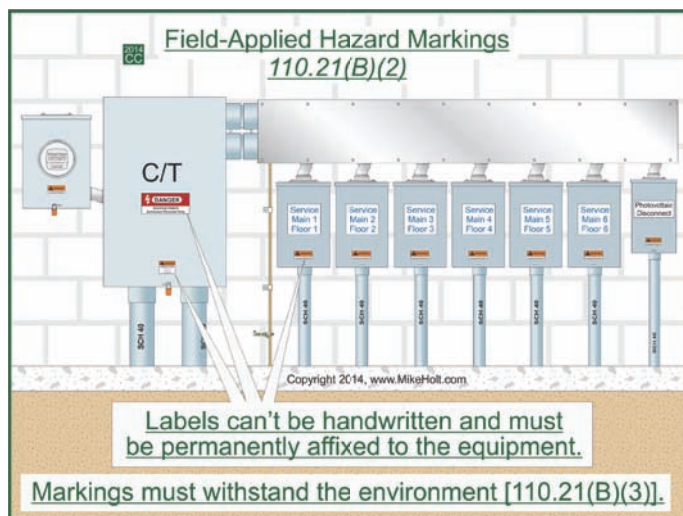

Figure 110-6
- (2) The label can't be handwritten, and it must be permanently affixed to the equipment. **Figure 110-6**